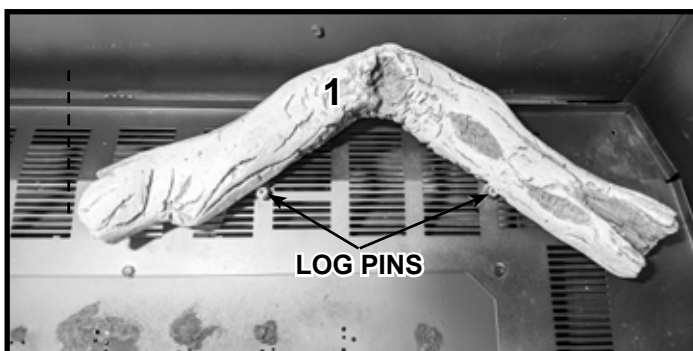
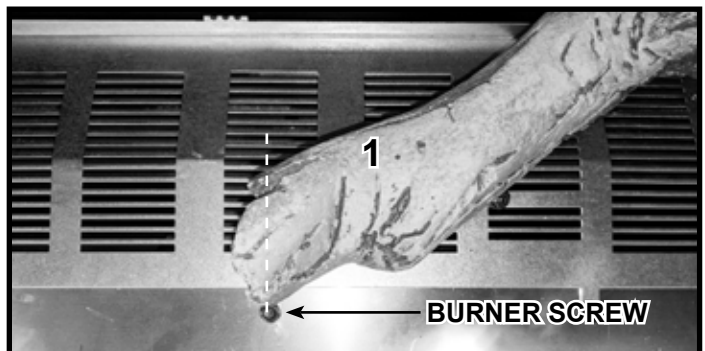

Figure 4 Place Log #1
Figure 5 Top View of Log #1 in Position
**Log #1:** Place Log #1 using the #4 and #6 log pins as guides as shown in Figure 4. The left end of the log will align with the burner screw as shown in the top view illustrated in Figure 5.